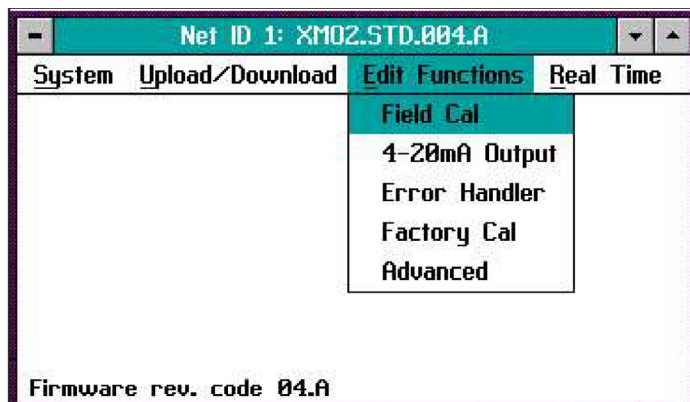
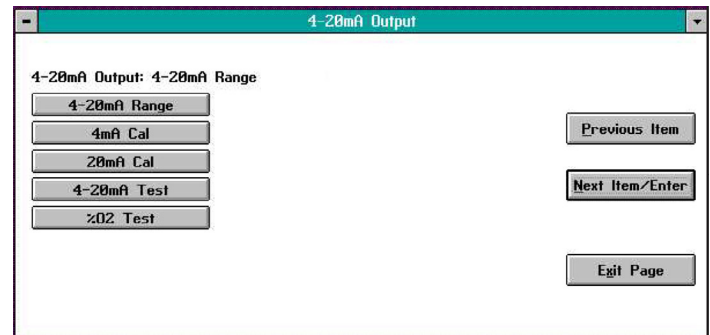

Figure 12: Edit functions menu
Figure 27: 4-20 mA output window
2. From the Instrument window, pull down the Edit Functions menu, as shown in *Figure 12 on page 19*.
To access the XMO2 calibration, pull down the Edit Functions menu from the Instrument window. This menu consists of the five commands displayed in *Figure 12* below. To access any of the commands, simply select it from the menu.
The XMO2 Calibration Sheet shipped with the unit lists the 4-20 mA analog output range that was set at the factory. IDM enables you to change this range via the *4-20mA Output* option. After you click on the *4-20mA Output* button from the *Edit Functions* menu (Figure 12 on page 19), a window similar to Figure 27 below opens. Clicking on any option opens the window for that option, while clicking on *Next Item/Enter* opens the menu listed on the status line above the options.
**Note:** Clicking on the *Next Item/Enter* button selects the option listed on the status line above the option buttons (*4-20mA Range* in Figure 27 above). The option listed on the status line in any window is the option that was chosen the last time that menu was used.